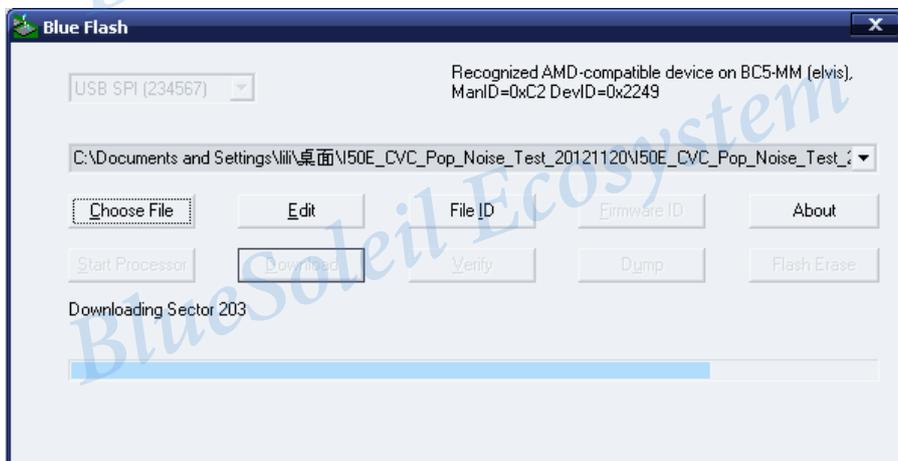
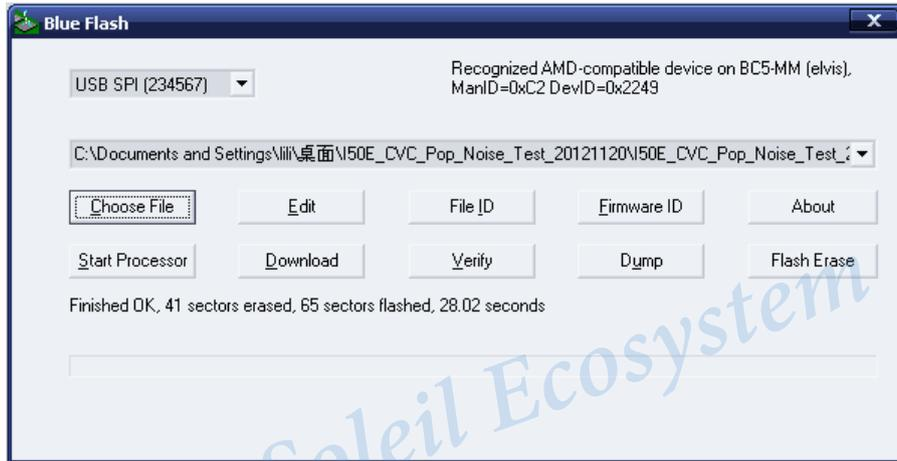

Figure 11 Downloading firmware
Figure 12 Download finished
- Click **Choose File** and select a '.xpv' file, the firmware file, and click **Download** to start the firmware burning process. See Figure 11 and Figure 12 below.